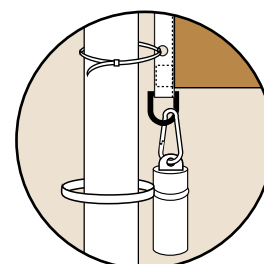

Fig 12
12. Take the cable ties, pass through the additional eyelets on the flag and around the pole, do not over tighten. Clip the weight to the bottom of the flag. (See Fig 12)